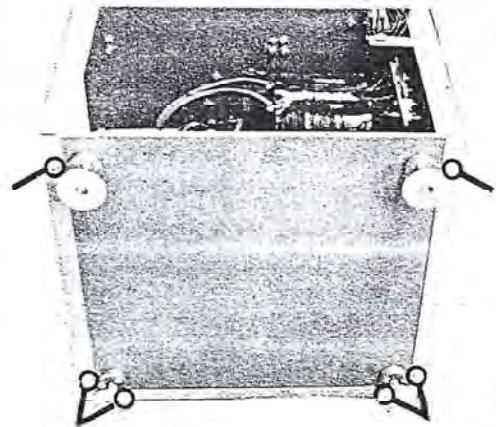

Figure 6. 3K-A Bottom Plate.
- 4 Lay the 3K-A on its side and remove the six screws which hold the wrap-around to the bottom plate of the amplifier. (see Figure 6).